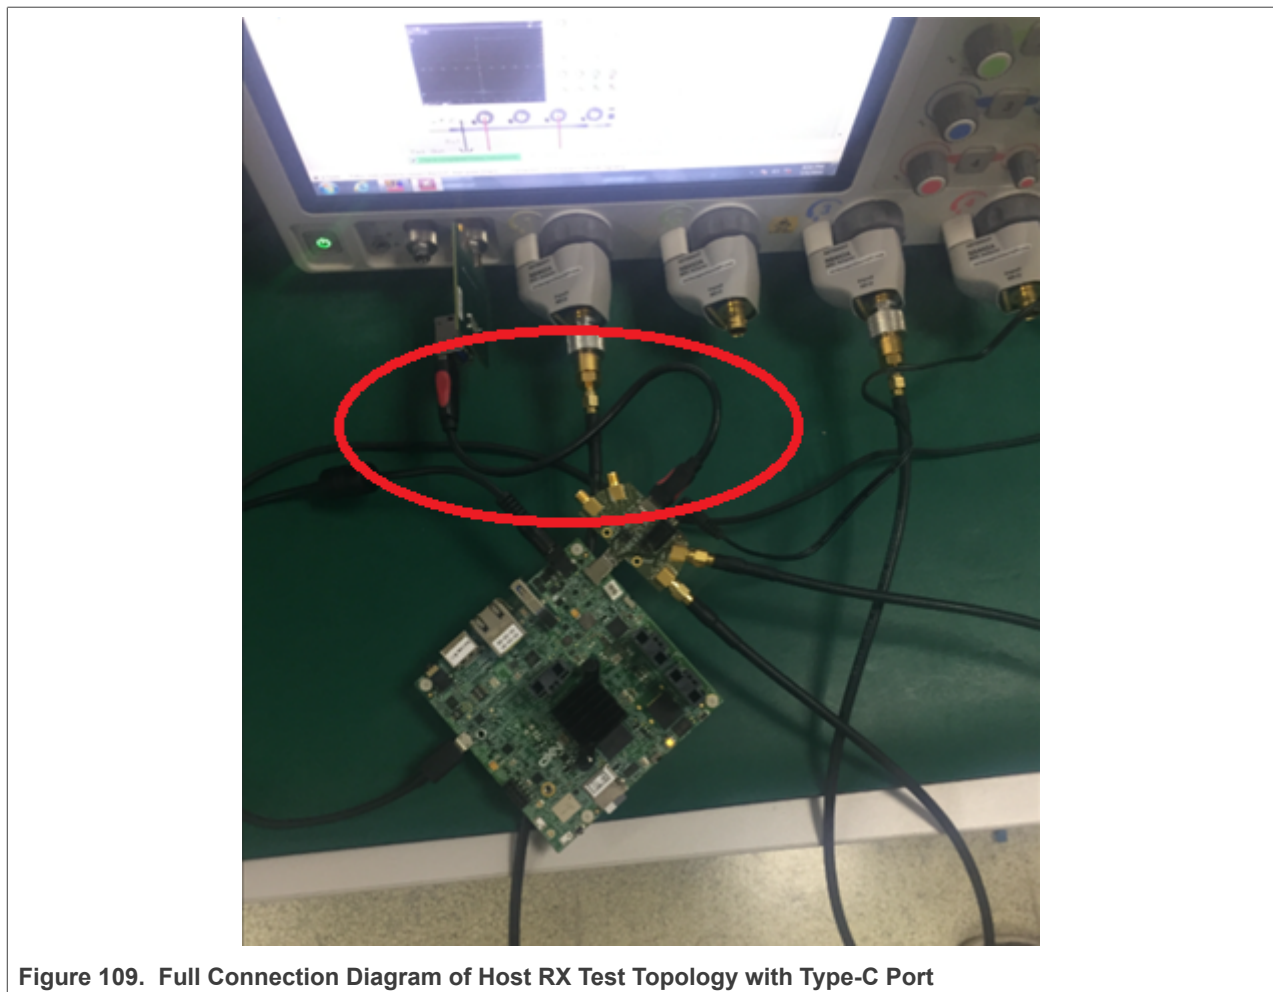

Figure 109. Full Connection Diagram of Host RX Test Topology with Type-C Port
5. Connect 5 Inch Device Test Fixture 2 to Device test Fixture 1 using type A to type B cable. When Type-C port is tested, a hub from type A to Type C is needed in Figure 109.
- 7. Connect **TX+** and **TX-** of the Test Fixture 1 to Oscilloscope Channel 1 and Channel 3 using SMA cables. The full connection diagram is show in Figure 109.
9. In test execution, the test software will pop up the right image in Figure 109. Disconnect the DUT and USB test fixture, then **restart DUT**, and click **OK**.